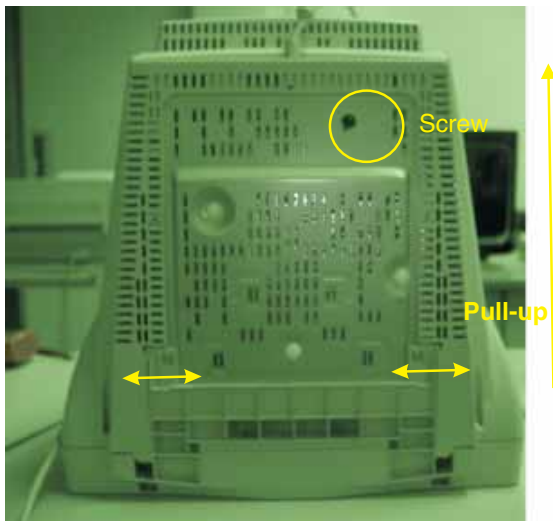
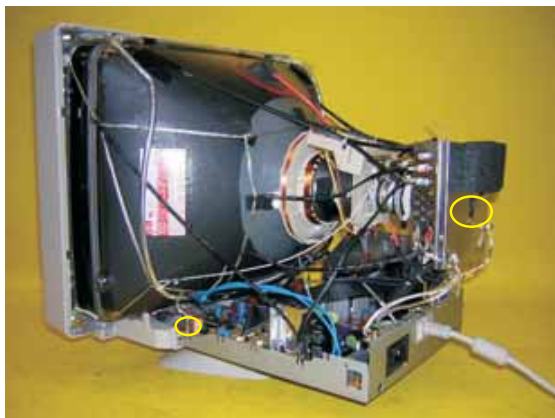

Fig. 6
Fig.7
- Remove the screws for disconnect the Bottom tray as Fig. 6.
- Open the click and remove the screws on the main board from fig. 6 to fig.7.